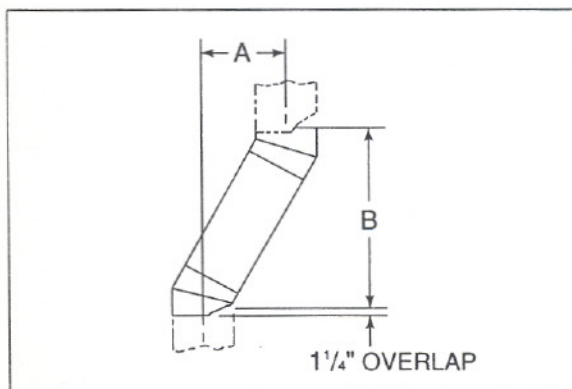

Figure 8
1. Measure how far the chimney needs to be shifted to enable it to avoid the overhead obstacle. See Figure 8, dimension "A".
Example: Your "A" dimension from Figure 8 is 14½". Using Table 1, the dimension closest to but not less